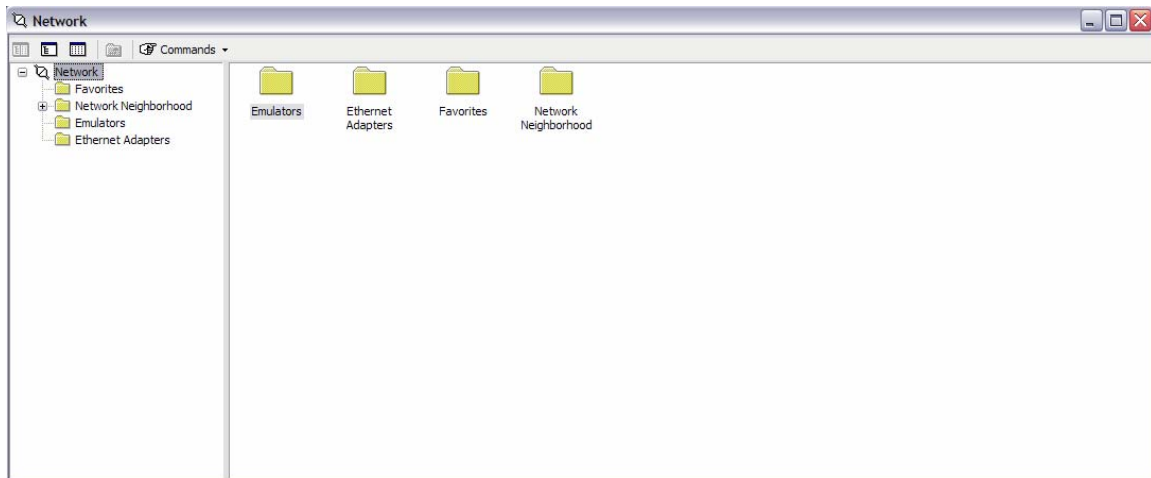

Figure 5: Network Explorer Window
- The Network Window will open automatically at startup. See Figure 5.